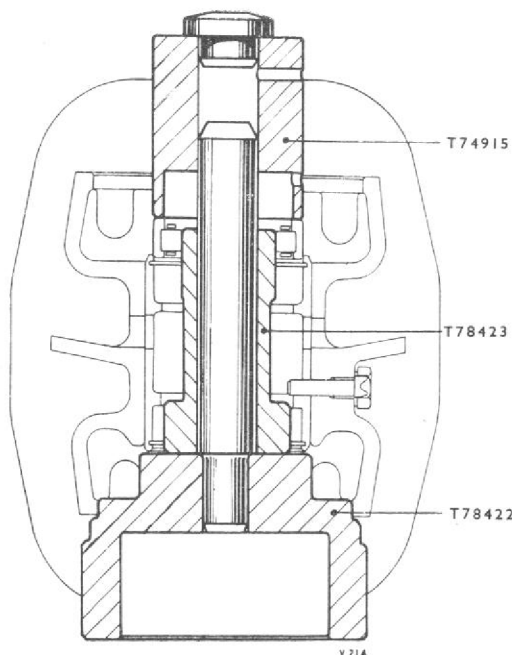

Fig. 11. Pressing the upper roller bearing into the bush
- (2) Remove the housing from the press block.
- (3) Assemble the front laminum adjusting washer and front housing assembly to the centre housing.
- (4) Position sleeve T78423 with the small diameter uppermost over the mandrel of press block T78422.
- (5) Place the centre housing on the press block, with the top uppermost, which is denoted by the dowel hole in the front flange.
- (6) Position the upper roller bearing over the mandrel of the press block.
- (7) Using adapter T74915, press the bearing into the bush (fig. 11) and secure in position with the retaining ring using Seeger pliers.